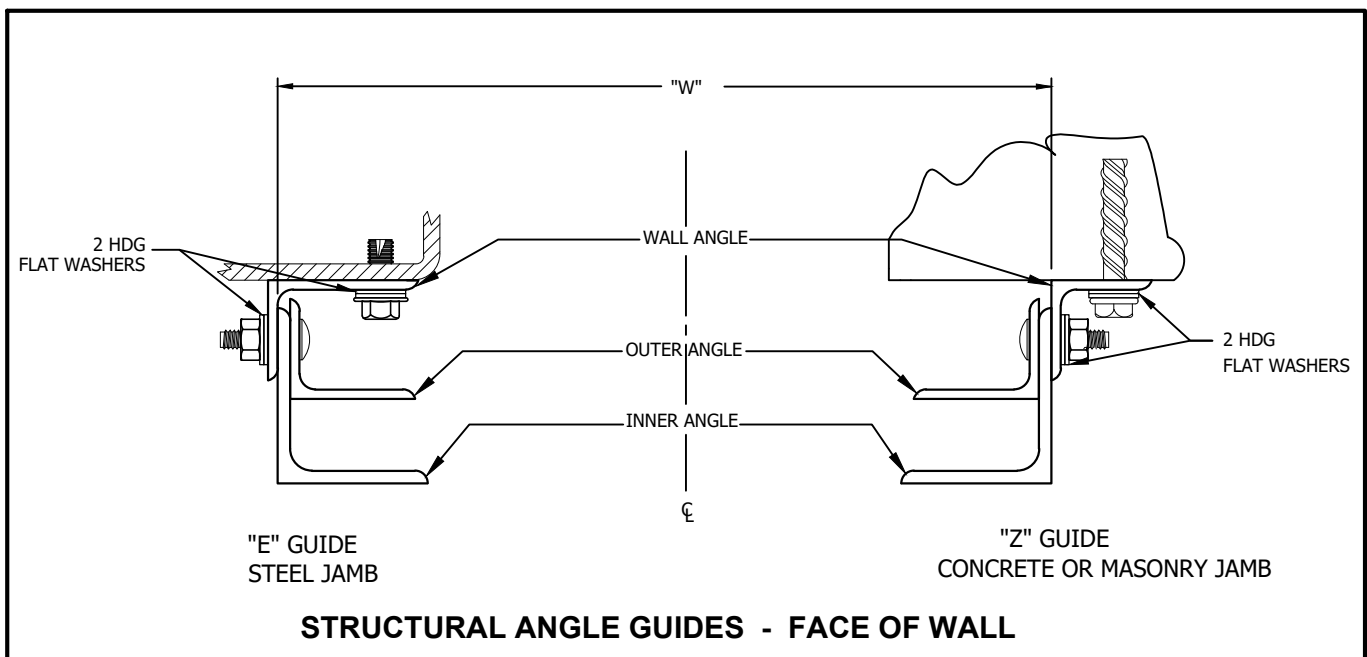

FIGURE 5
- a. Find and mark centerline of opening and mark as shown in Figure 5.
- d. Jamb floor marks should precisely equal "W" dimension and reflect the location of the wall angle's perpendicular leg as shown in Figure 5.